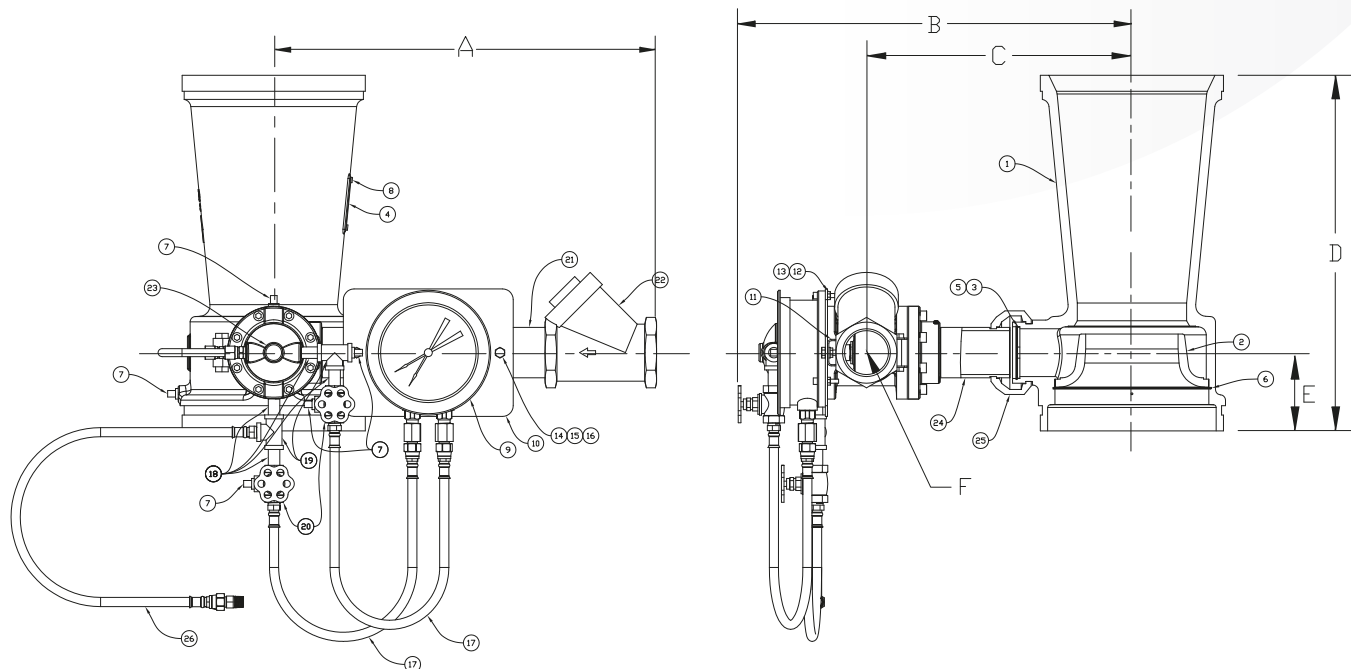
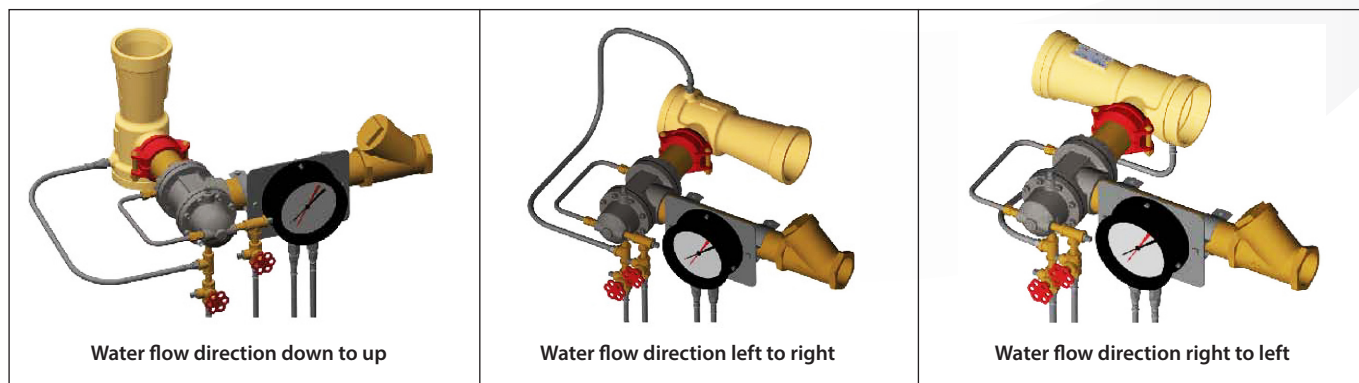

Figure 6.2.1 - In-line balanced pressure proportioner
Fig. 8.2 - Typical proportioning device orientation
- The balancing spool valve must always lie horizontally (*see Fig 8.2*)
- The foam concentrate supply line diameter may need to be increased above the foam inlet size ("*F*" *Fig 6.2.1*) due to friction loss in piping from the riser back to the foam source
- If installed in a horizontal header, the check valve ("*22*" *Fig 6.2.1*) must be oriented so that the clapper is perpendicular to the floor and access hole is facing up (*see Fig 8.2*)
- Straight piping equal to a minimum of five (5) pipe diameters should be installed before and after the ILBP (ratio controller) to help ensure proportioning accuracy